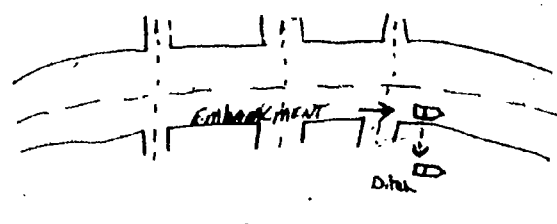

Fig 1-26. Operator's Report of Motor-Vehicle Accident, Standard Form 91.
e. Operator's Report of Motor-Vehicle Accident, Standard Form 91 (fig 1-26).
- (1) Introduction. This form accompanies each item of equipment when it is being operated, and is used by the operator to provide a detailed report of any vehicle accident in which he is involved. The report is to be completed, regardless of the extent of damage caused by an accident, and is to be filled out by the operator at the time of the accident. If the operator is injured and unable to complete the form, it will be completed at the next earliest date possible. The report will be completed and submitted to the equipment officer for review and forwarding. It will be used by the investigators of the accident.
- (2) Completion instructions. The need for accuracy and attention to details when completing a standard form 91 cannot be overemphasized. The operator should attempt to obtain as much information about the accident as possible and enter it on the report. The report should tell WHAT, WHEN, WHERE, WHO, and WHY. Particular attention is paid to information concerning the other vehicle, its driver or owner, and the names and addresses of any witnesses. In case the operator cannot complete the report because of injury or death, the next senior military person will complete the initial report.
- (3) Miscellaneous instructions. An operator involved in an accident will render assistance to the injured and attempt to notify the proper military authorities as soon as possible. He will comply with State and local laws, rules, and regulations pertaining to the reporting of vehicle accidents. He will NOT express opinions regarding the accident nor complete any civilian insurance company accident forms. The motor vehicle accident report is forwarded for action, but a copy of the report and the Engineer Equipment Operational Record are maintained in the organizational files.